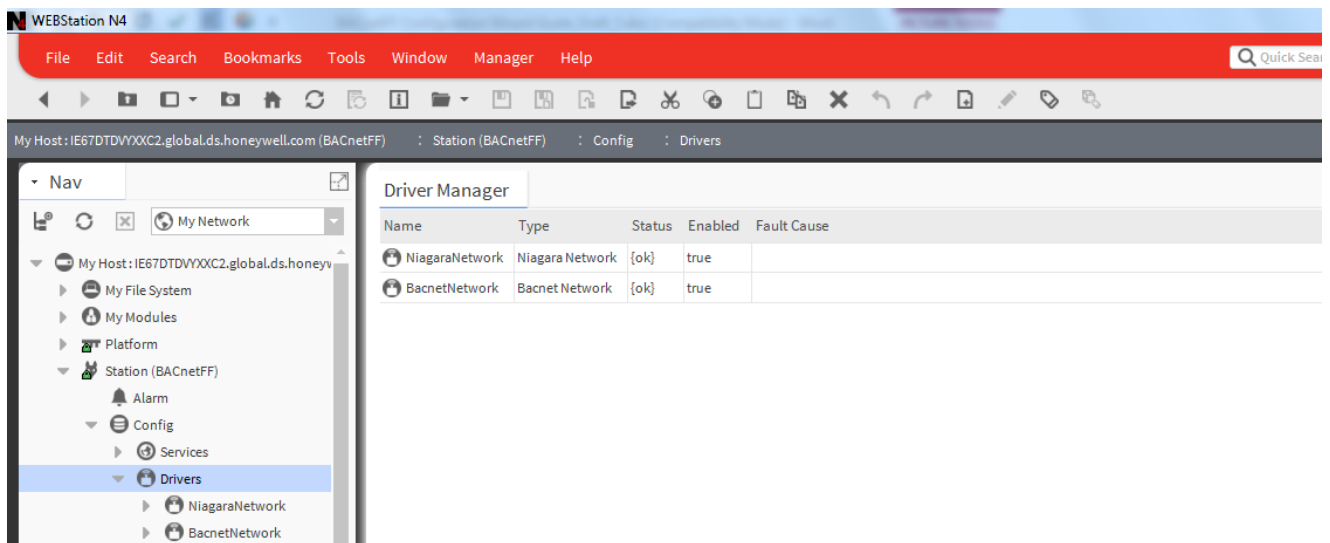

Figure 21: Newly added BACnet Network
- A newly added 'BacnetNetwork' can be seen under 'Device manager' on the right pane highlighted in Amber color as shown in Figure 21